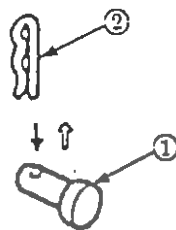

Fig. 1
- 3) Drive connecting pin through the boom connection from outside to the inside of the boom. Install spring pins (2 in Fig. 1) in one end of boom connecting pins. See Fig. 1.
- 3) Remove the outside spring pin (2 in Fig. 1) from boom connecting pin. Drive connecting pin from the outside to the inside of the boom to remove the connecting pin.